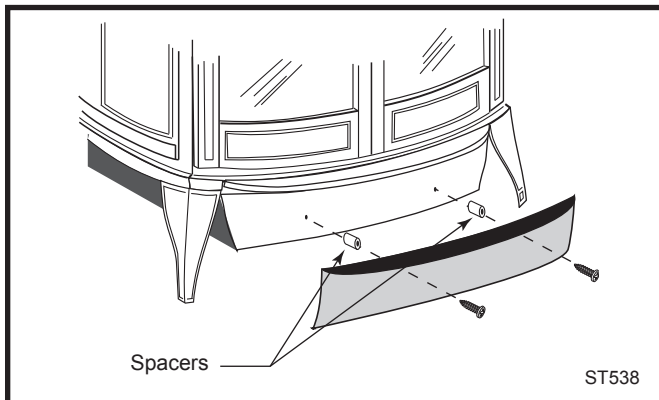

Fig. 23 Install the ashdoor heat shield.
2. Insert the screws through the ash door heat shield (from the painted side), place the 5/16" spacers over the screws, and carefully thread them back into the original holes. (Fig. 23) The curved lip should be upward, under the ashlip of the stove.